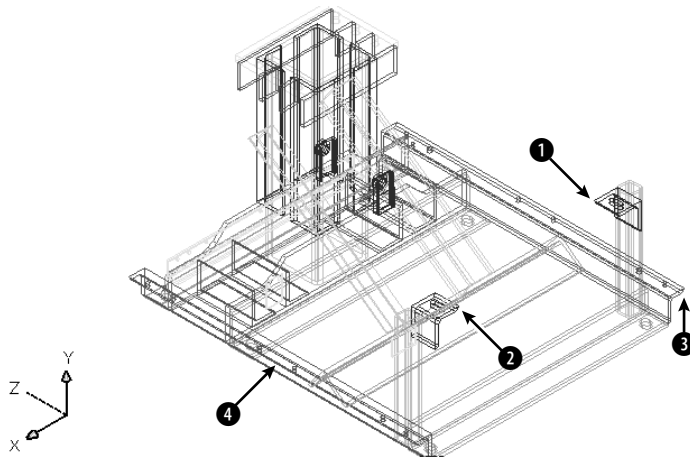

Figure 28-7: The base assembly frame.
2. Save the file as **ab28-01.dwg** in your **AutoCAD Bible** folder. This is a 3D drawing of a base assembly frame for an industrial washer, shown in Figure 28-7.
4. Choose **Insert ⇨ Hyperlink**. At the **Select objects:** prompt, pick ❶ and ❷ in Figure 28-7. The **Insert Hyperlink** dialog box opens.
6. Repeat the **HYPERLINK** command. This time attach ❸ and ❹ in Figure 28-7 to **ab28-b.dwf** in your **AutoCAD Bible** folder. Click **OK** to close the dialog box.